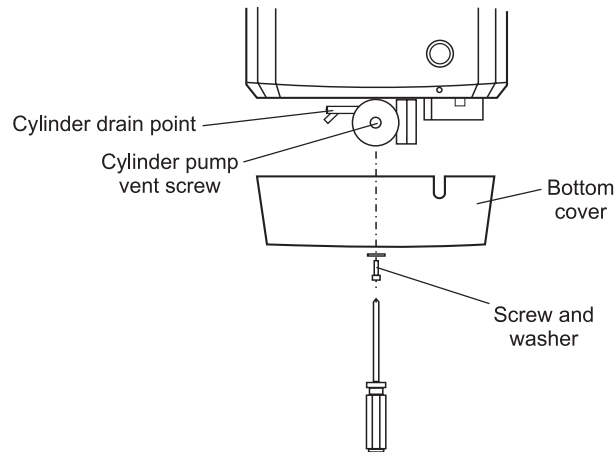

Fig. 18
3. It is important to vent the solar cylinder pump by unscrewing the centre cap from the pump head (see Fig. 18) until water runs from it and then replace the cap.